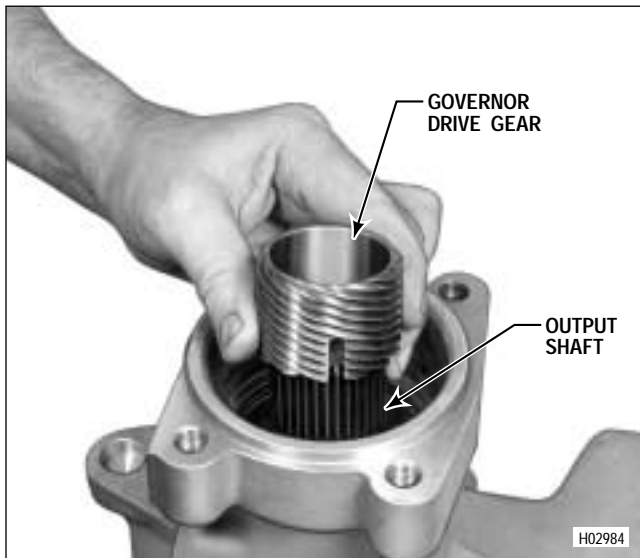

Figure 7-13. Installing Governor Drive Gear
(2) Position the transmission, rear end upward. Install the governor drive gear, engaging its slot with the pin in the output shaft (Figure 7-13).
(3) Install speedometer drive gear 2 (Foldout 12,B) or speed sensor wheel 9 onto the output shaft.